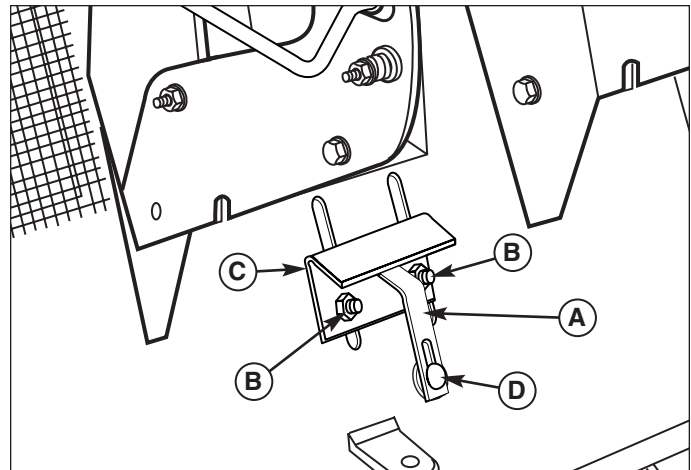

Figure 32. Catcher Alarm Adjustment
Sliding the paddle bracket (C, Figure 32) up increases the volume of grass in the collector before the alarm goes off. Sliding the paddle bracket (C) down decreases the volume of grass in the collector before the alarm goes off.
1. Loosen bracket hardware (B).
2. Slide paddle bracket (C) up or down.
3. Tighten bracket hardware (B).
4. Alternately tighten the adjustment nuts (B, Figure 32) until the rotor face and armature face just contacts the gauge.